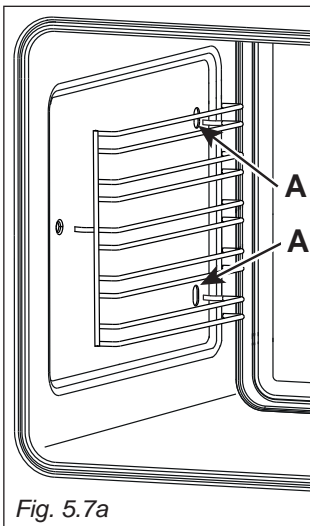

Fig. 5.7a
- Slide the rear prongs of the side rack into the holes "A" at the rear of the oven (fig. 5.7a).
- Fit the side racks onto the oven walls (figs. 5.7a, 5.7b).
- Remove the side racks (figs. 5.7a, 5.7b).